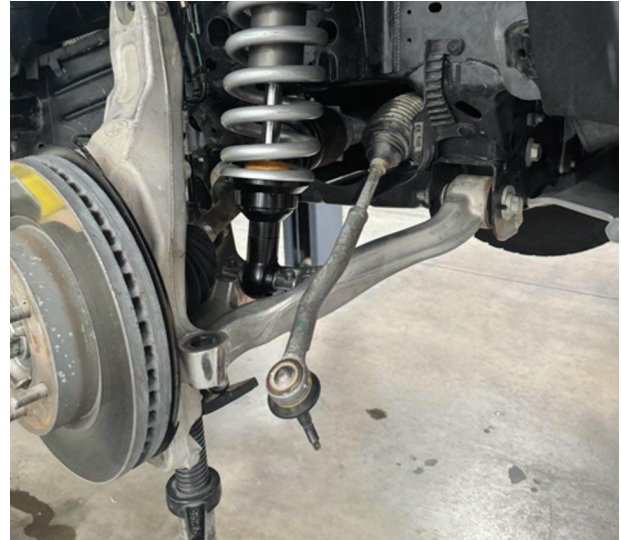

Fig. 1: Detach the tie rod end link.
1. Detach the tie rod end link at the spindle steering arm for removal and installation clearance (Fig. 1).
5. Reconnect the tie rod end link and torque to OE specification (Fig. 1).